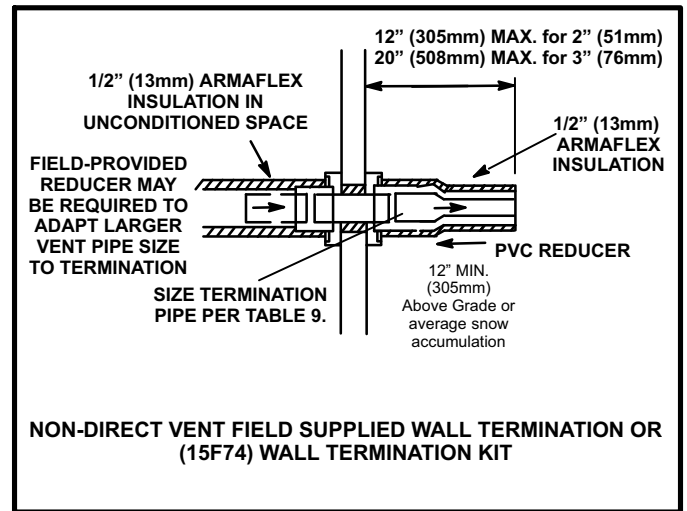

FIGURE 43
- 2 - On field supplied terminations for side wall exit, exhaust piping may extend a maximum of 12 inches (305mm) for 2" PVC and 20 inches (508mm) for 3" (76mm) PVC beyond the outside wall. See figure 43.